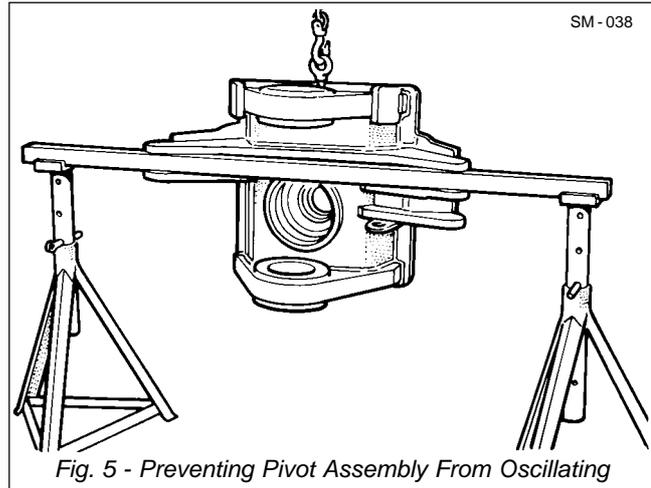

Fig. 5 - Preventing Pivot Assembly From Oscillating
3. Identify the relationship of the driveline caps to brake yoke (18). Remove capscrews, disconnect driveline and secure clear of brake yoke (18).
4. Remove mounting hardware securing parking brake disc to brake yoke (18) and remove brake disc.
5. Place a suitable container under rear brake yoke (18) to catch oil released when pulling brake yoke (18) from driveshaft (14).
6. Remove Rear bolts (19), Lockplate (16) & Rear thrust collar (63). Pull brake yoke (18) from driveshaft (14).
7. Remove adaptor (57), connector (58), elbow (59) and pipe assembly (60) from oscillation hub.
8. Remove bolts (22) and washers (21) securing locking plate (12). Remove locking plate (12).
9. Restrain pivot assembly (1) to prevent it oscillating, by placing a heavy bar between the steering cylinder mountings. Lock the bar in position using suitable trestles or stands. See Fig. 5.
10. Using a suitable tool, remove thrust nut (11). If wear area of thrust nut (11) is damaged, replace thrust nut (11).
11. Insert an M20 eyebolt into tapped pad provided on top of pivot assembly (1) and attach suitable lifting equipment.
13. Using lifting equipment, carefully pull pivot assembly (1) clear of oscillation hub. Place pivot assembly (1) in a suitable work area for further disassembly.
3. Install plug (25) in filler/level hole on pivot assembly (1). Install gasket (5) and cover plate (6) on side of oscillation hub and secure with bolts (7) and washers (20).
4. Install plug (25) in cavity drain port on underside of oscillation hub.
5. Install plugs (28) into oscillation bearing grease ports.
6. Lightly coat 'V' ring (10) and machined surfaces of pivot with Extreme Pressure Multipurpose Grease (26) and, install 'V' ring (10), with lip towards rear, on front of oscillation hub.
7. Using suitable lifting equipment, and taking care to prevent damaging bushes (2) or pivot threads, install pivot assembly (1) into rear frame.
8. Lightly coat 'V' ring (10) and machined surfaces of pivot with Extreme Pressure Multipurpose Grease (26) and, install 'V' ring (10), with lip towards front, on rear of oscillation hub.
9. a) Restrain pivot assembly (1) to prevent it oscillating, by placing a heavy bar between the steering cylinder mountings. Lock the bar in position using suitable trestles or stands. See Fig. 5.
b) Secure a suitable tool to pivot thrust nut (11) and tighten thrust nut (11) until there is no end float/clearance at thrust face of either bush. Slacken thrust nut (11) until pin of the locking plate (12) can be inserted in the first available hole in the thrust nut (11).
c) Secure locking plate (12) with bolts (22) and lockwashers (21). Torque tighten bolts (22) to 94 Nm (69 lbf ft).
10. Install adaptor (57), connector (58), elbow (59) and pipe assembly (60) to oscillation hub.
11. Install brake yoke (18) on driveshaft (14) until it butts against bearing assembly cup and cone (8 & 9).
12. Install parking brake disc on brake yoke (18) and secure with bolts, washers and nuts. Tighten bolts to a torque of 73 Nm (54 lbf ft).
13. Install rear of driveshaft (14).
14. install Brake yoke (18) , Rear thrust collar (63) ensuring 'O'-rings (29& 51) are in place , shim pack (64) and bolts (19).
15. Lock off Brake yoke flange as before (18) with suitable clamping method. Torque bolts (19) to 73 Nm (lbf ft)
16. Take a magnetic clock gauge located on the flange of pivot casing, needle acting on Rear thrust collar (63) end face. Check Brake yoke (18) float movement. Ensure still within range 0.05mm - 0.15mm (0.002" - 0.006").
17. If float is incorrect, alter arrangement of shim pack (64) to bring within size.